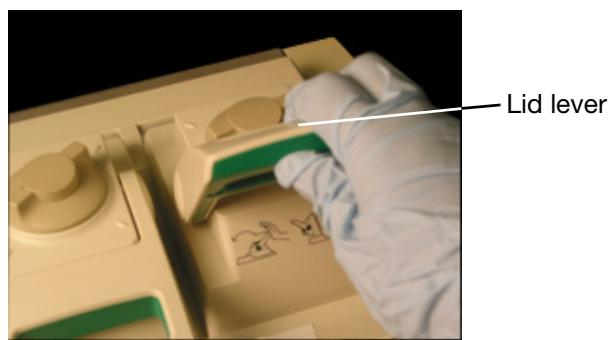

Figure 11. Push the lid lever down.
1. Push the lid lever down (Figure 11), making sure that the front of the lid is secured beneath the housing, and then lock it in place.